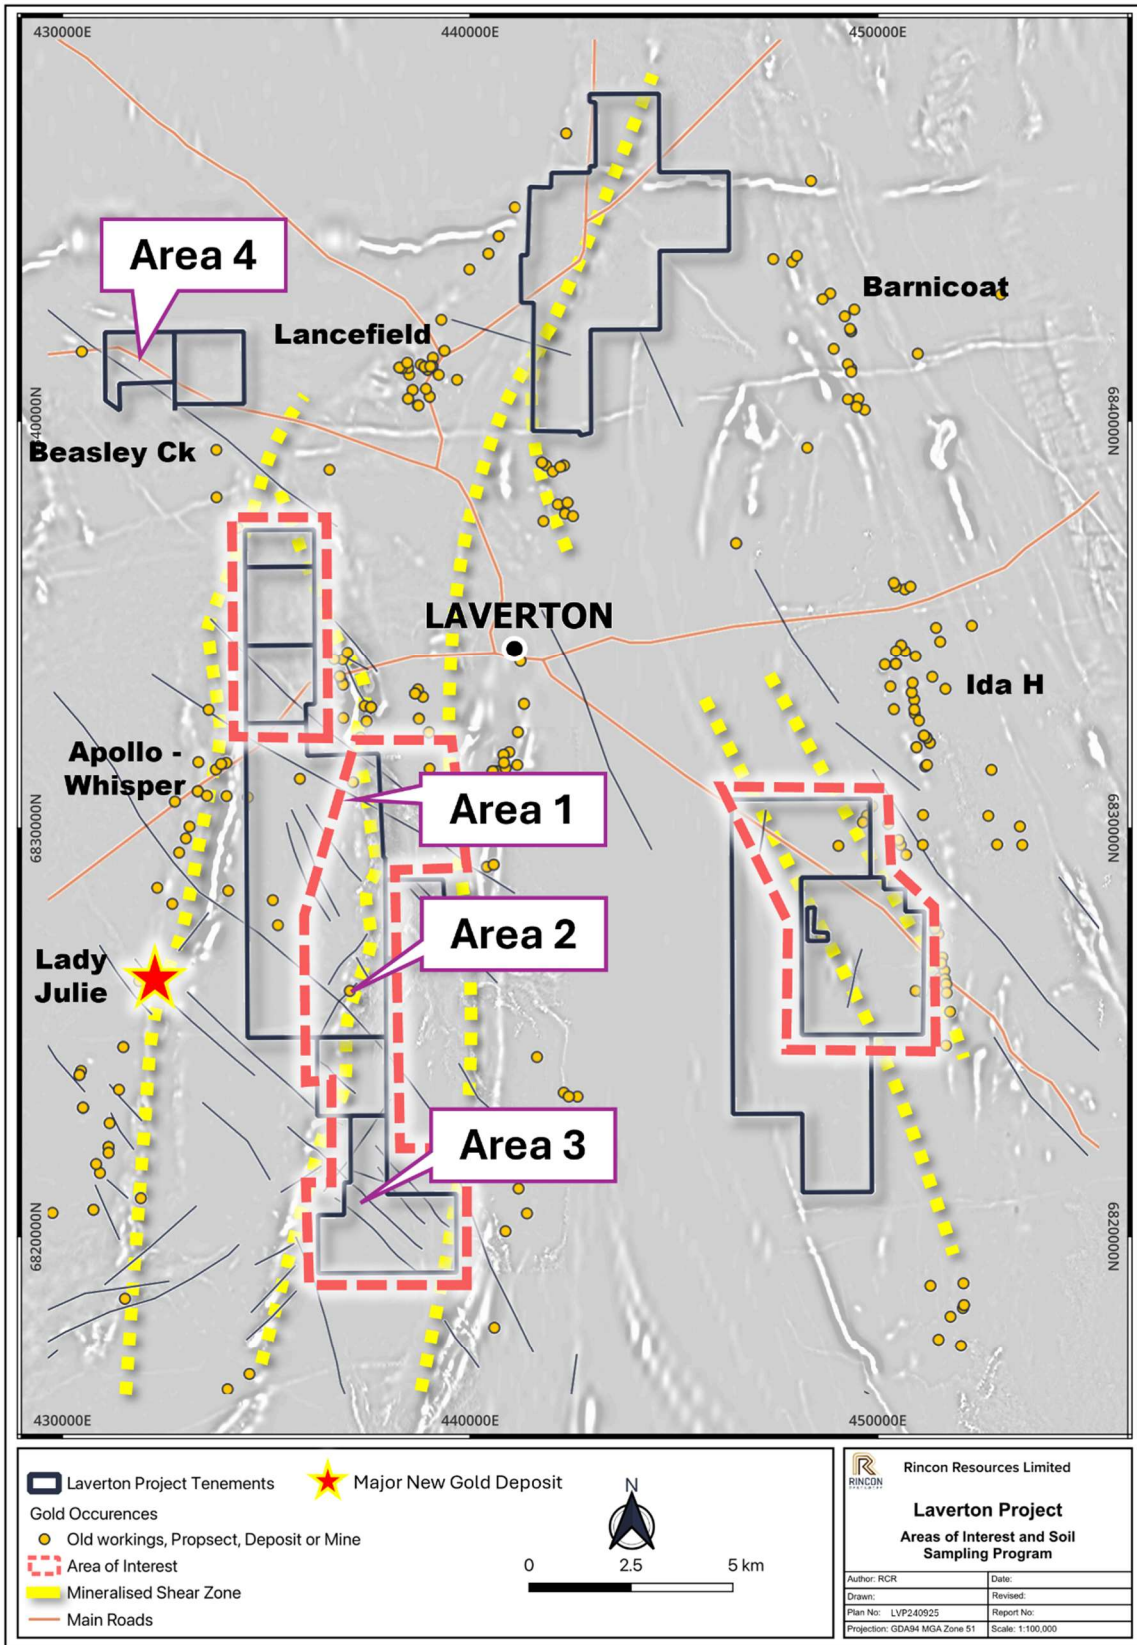

Figure 1 – Active Areas and anomalous trends at the Laverton Gold Project.
Rincon Resources Limited (Rincon or the Company) is pleased to provide an exploration update of the companies Laverton Gold Project situated 4km west of the Laverton townsite in Western Australia (Figure 1).
A 48 hole, 2,874m air-core (AC) drill programme at Area's 1 and 2 has been completed at the Laverton Gold Project that aimed to define the potential of gold mineralisation, intersected in historical drilling and during the 2024 soil sampling program completed by Rincon (Figure 1).
A Drone UAV magnetic survey totally of 400-line km of was completed at Area’s 1, 3 and 4 (Figure 1) at 25m line spacings by a Scintrex CS-VL Cesium vapour magnetometer. Further details of the survey can be found in Appendix 2 attached.